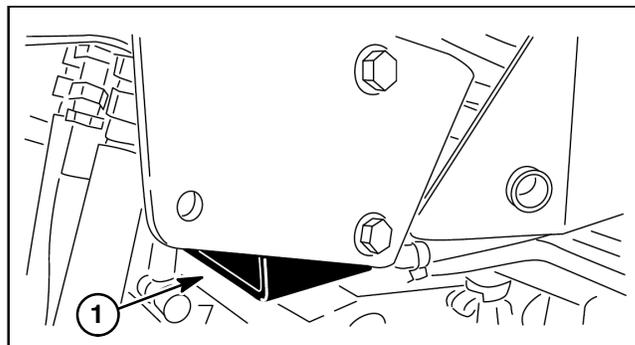

Figure 1
- B. The right side jacking point is the ROPS support bracket behind the RH front wheel (Fig. 1).